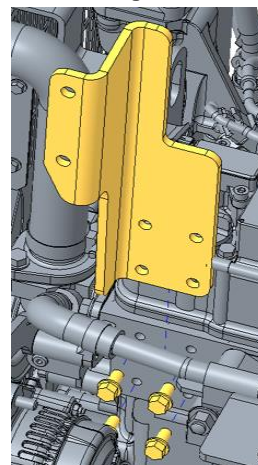

Figure 5
6. Install front DOC mount bracket (5) on the front cylinder head near cooling water pump as shown in the Figure 5 using M8X1.25 - 16mm bolts (9).
7. Install DOC (12) onto the middle and rear DOC brackets (3 & 4) with the bolts in the DOC using M8 Nuts (11).
8. Clamp the rear end of the DOC (12) to the front DOC mount bracket (5) using U-bolt assembly (6).
10. Install one end of the Pipe Exhaust (2) to the front end of the DOC (12) using M8X25 Bolts (1) and Gasket (13). Install the other end of the Pipe Exhaust (2) to the exhaust manifold outlet using M8 Nuts provided along with the engine and Gasket (13).